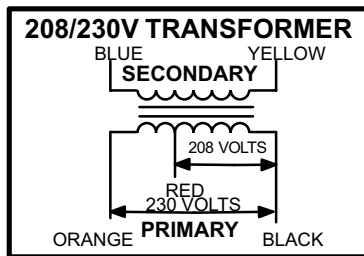

FIGURE 7
All LCA/LHA series units with 45 - 90 kW electric heat use a single line voltage to 24VAC transformer mounted in the electric heat control hat section in the control box. The transformer supplies power to all electric heat controls (contactors and coils). The transformer is rated at 70VA and is protected by a 3.5 amp circuit breaker CB13. The 208/230 (Y) voltage transformers use two primary voltage taps as shown in figure 7. Transformer T2 is identical to T1.